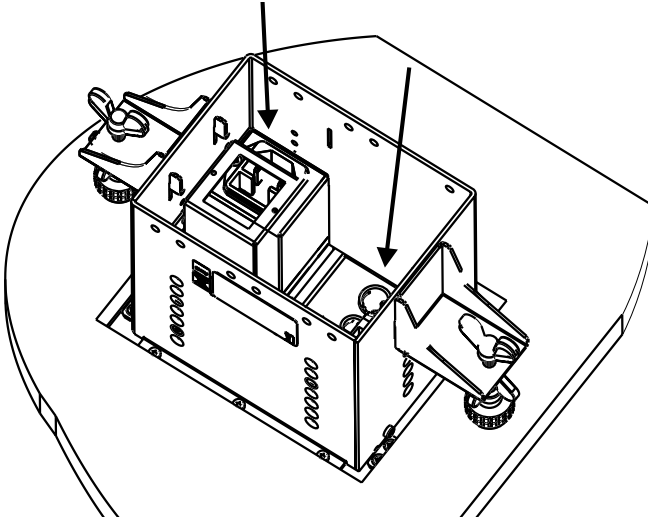

Figure 6: Connecting the Cables
1. Insert the power cable into its appropriate connector from below (see *Figure 6*).